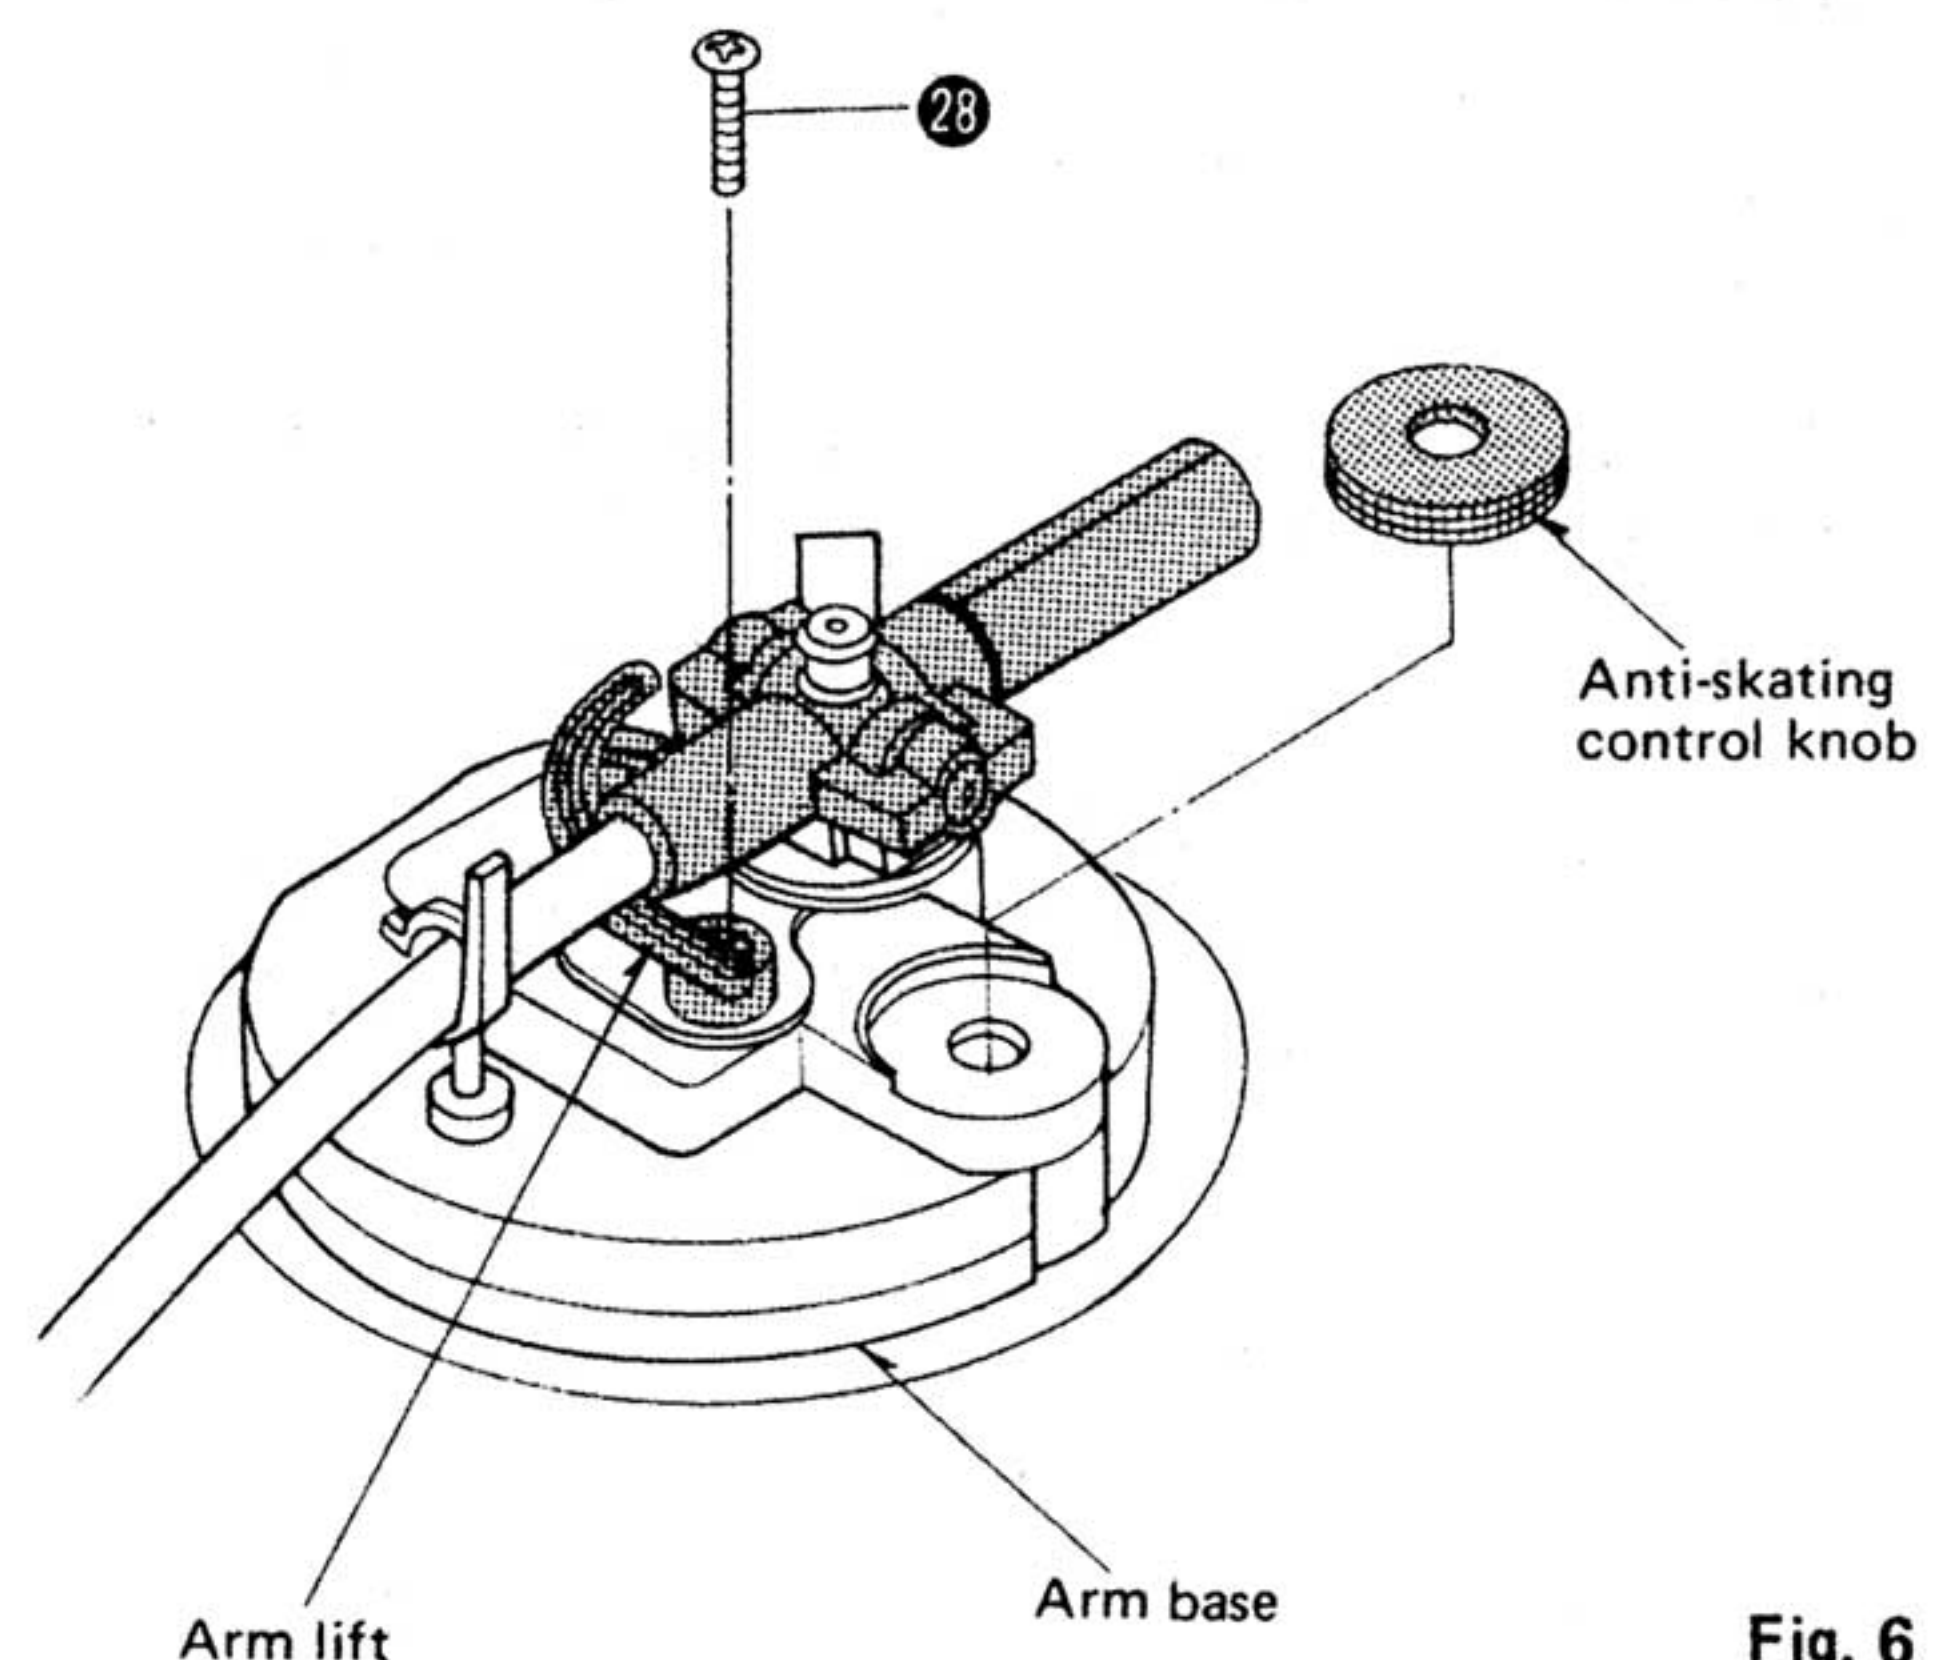

Fig. 6
5. To disassemble the lift substrate, disengage the arm lift fixing screw ②⑧ before turning over the body, then remove the arm lift. (See Fig. 6)
6. Remove the anti-skating control knob. (See Fig. 6)